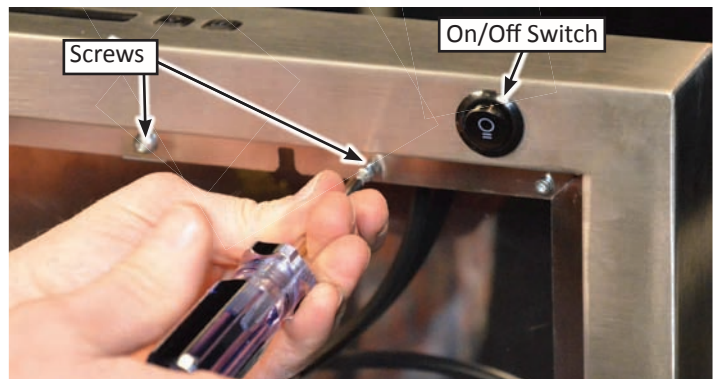

Figure 3
5. Remove (2) T10 Torx screws, that secure the on/off switch bracket to the frame, see figure 3.